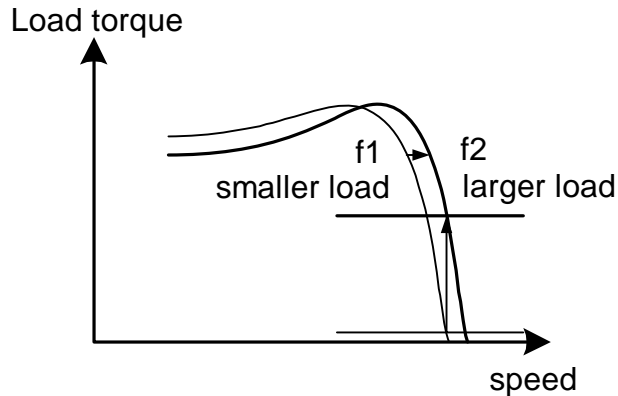

Fig. 18. Output frequency with slip compensation.
(3) Motor Rated Current (Cn-09)
(4) Motor No-Load Current (Cn-10)
- The slip compensation is enabled when the output current is greater than motor no-load current (Cn-10). The output frequency will shift from f1 to f2 (>f1) for the positive change of load torque. (See Fig. 18)